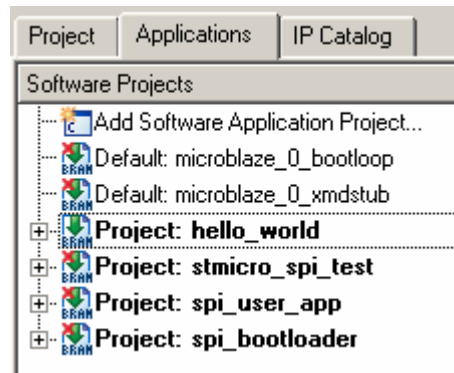

Figure 2 – Project: hello_world Selected for BRAM Initialization
3. Select the *Applications* tab. Select the **hello_world** project for BRAM initialization by right-clicking on the project and selecting **Mark to Initialize BRAMs**. No other applications should be marked for BRAM initialization. The *Applications* tab should look like Figure 2.